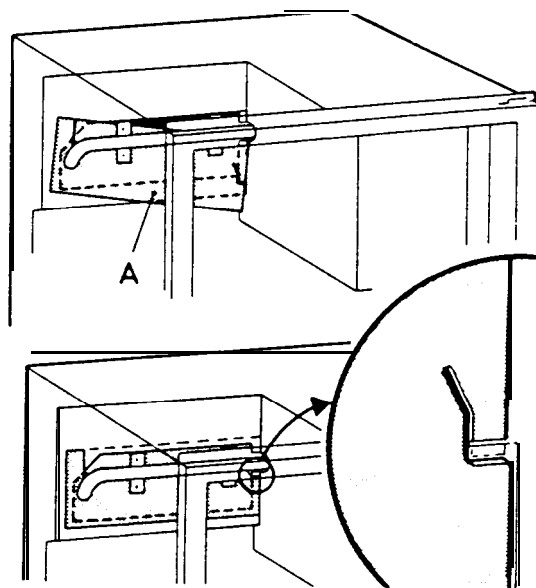

Fig. 43
6. Remove the plastic cover "A" (Fig. 43) by means of pulling it upwards on the right hand side which will release it from the cabinet liner (only on RM36C).